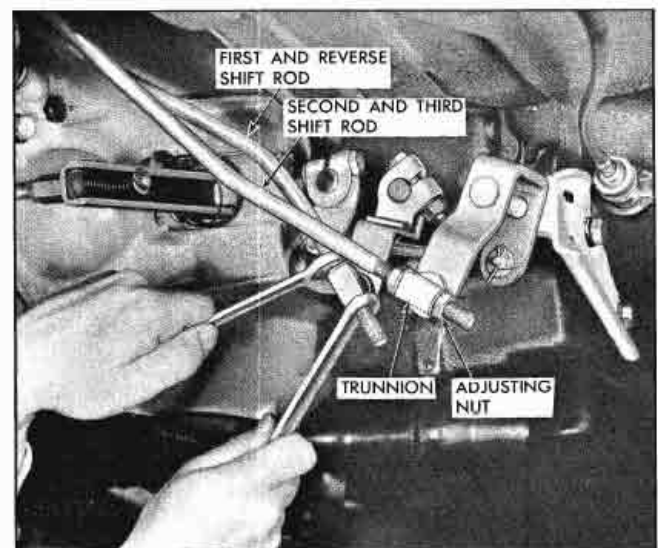

Fig. 7-10 Adjusting Shift Rod Trunnions
4. Attach 2nd and 3rd and first and reverse shift rods to shift levers at transmission and, with transmission levers in full neutral detent, adjust 2nd and 3rd shifter rod trunnion at idler lever and first and reverse trunnion at transmission lever (Fig. 7-10). Tighten trunnion lock nuts to 60-120 lb. in. torque.